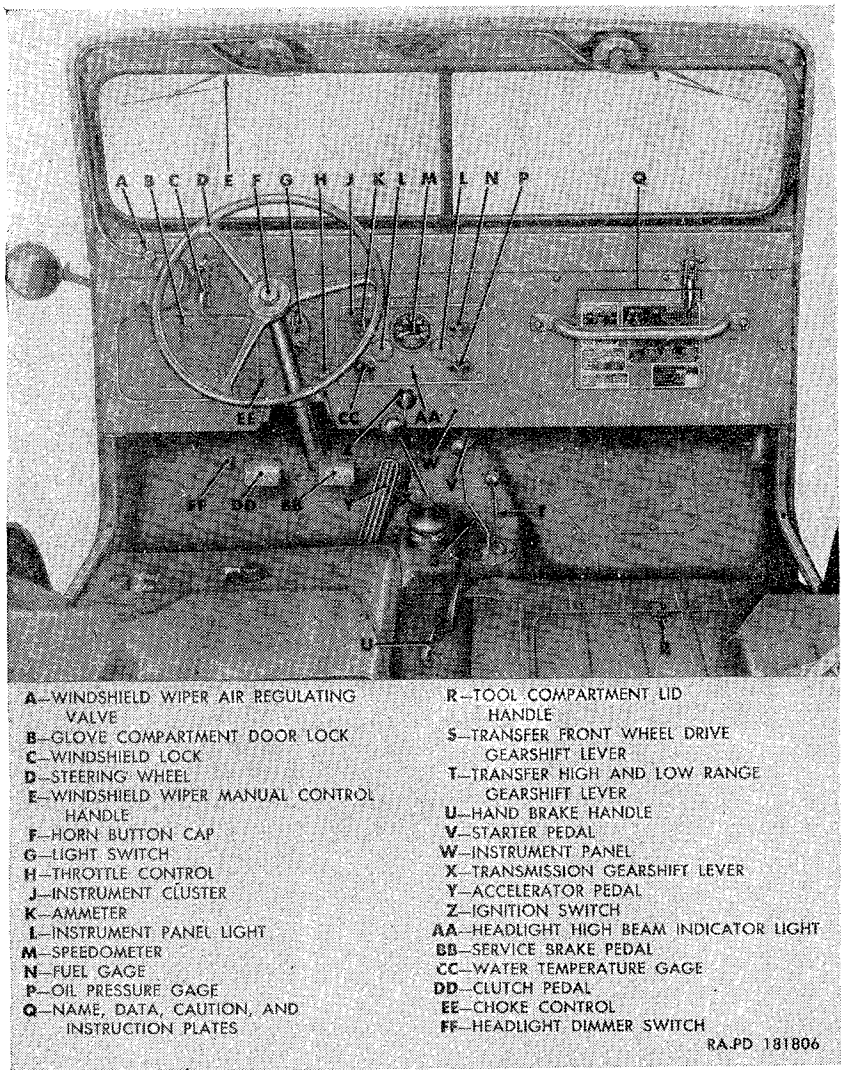
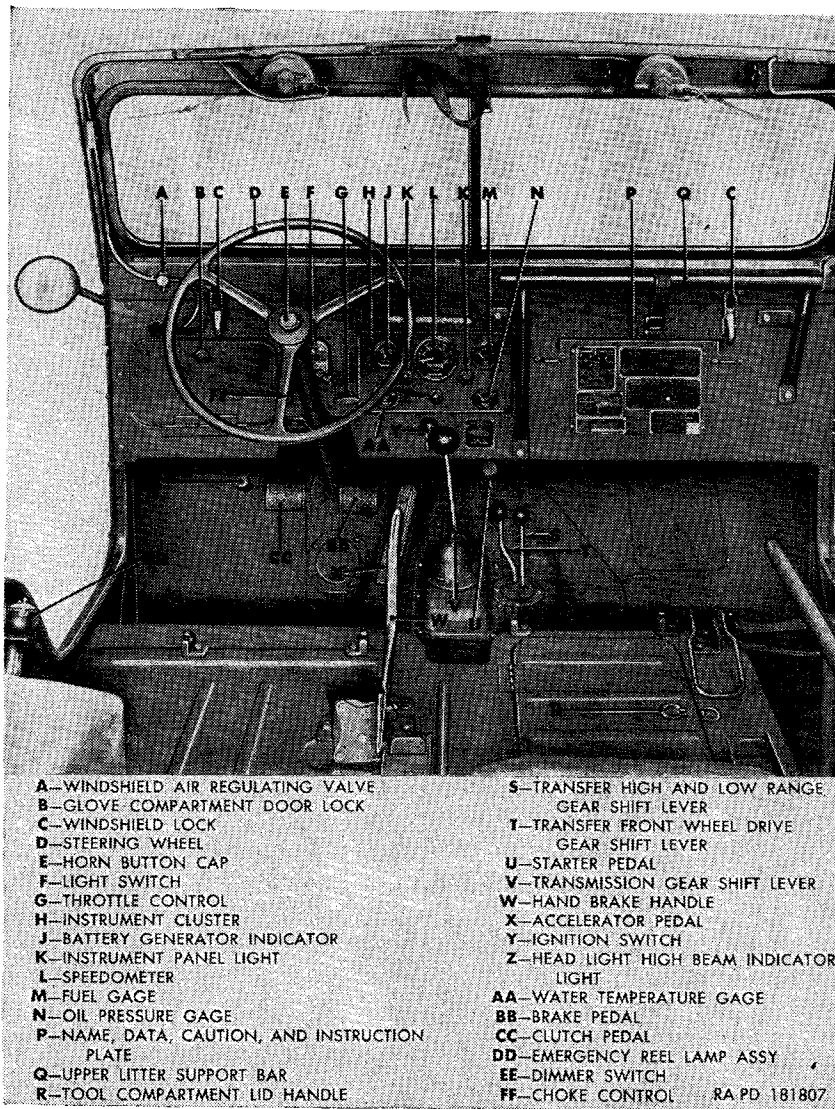
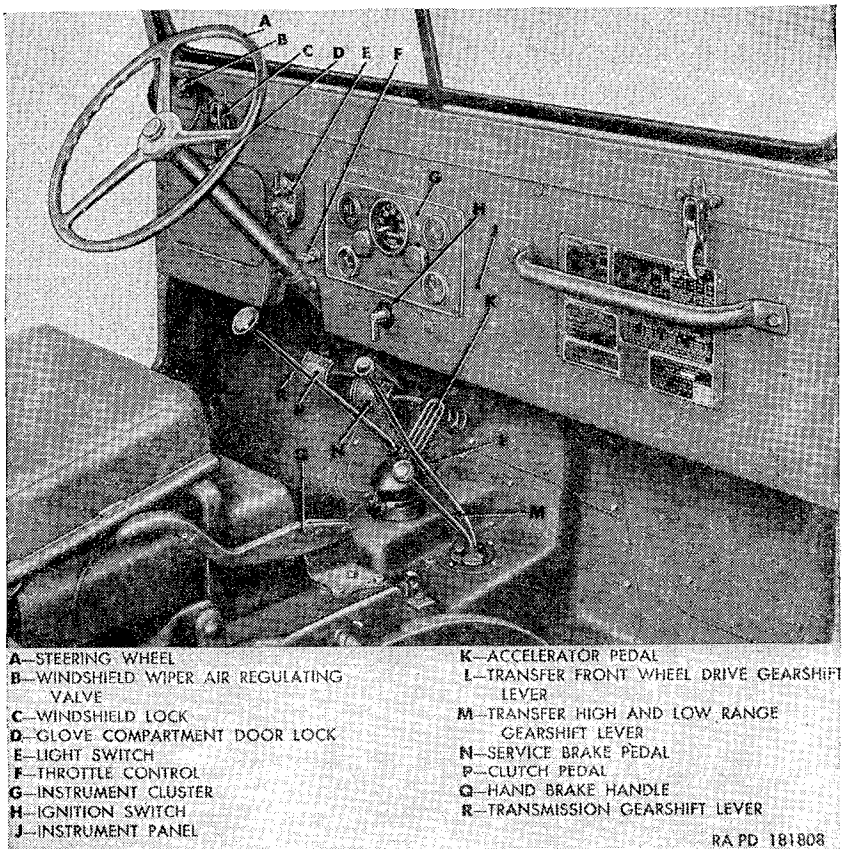
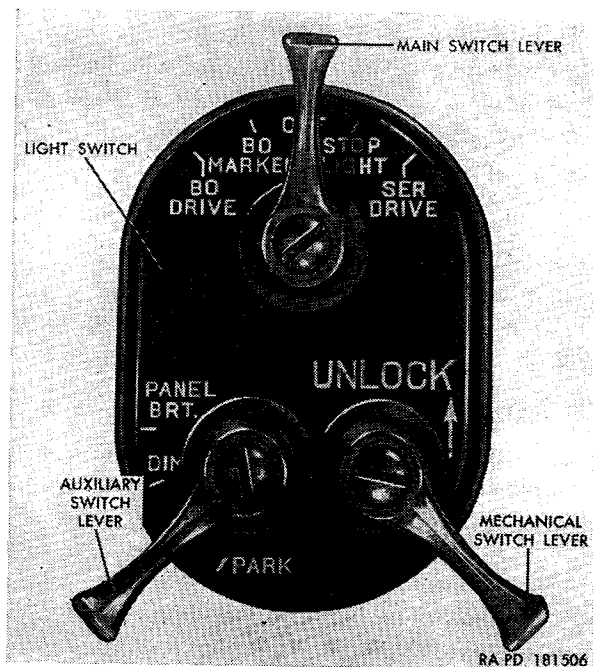

Figure 11. Driver's compartment (M38A1)—rear view—seat removed.
Figure 12. Driver's compartment (M170)—rear view—seat removed.
Figure 13. Driver's compartment (M38A1)—right view.
Figure 15. Light switch—levers in off positions.
b. All pedal and hand lever controls, instruments, gages, and switches are grouped in the driver's compartment (figs. 11 and 13) and are readily accessible to the driver for the operation of the vehicle. The major graduations, letters, figures, and pointer tips on all instruments and gages grouped in the instrument cluster (J, fig. 11) are coated with luminous paint for visibility during night operation.
The steering wheel (D, fig. 11 and A, fig. 13), located on the left side of the driver's compartment, turns the front wheels and thereby steers the vehicle. Turn the steering wheel clockwise for a right turn and counterclockwise for a left turn.
The service brake pedal (BB, fig. 11 and N, fig. 13) located on the upper-front floor pan cover to the right of the steering gear jacket and is accessible to the driver's right foot. This pedal controls the hydraulic service brakes on all four wheels. Depress the service brake pedal to apply the brakes. The degree of brake application is dependent upon the amount of physical effort applied to the brake pedal. Release the pedal to release the brakes.
The clutch pedal (DD, fig. 11 and P, fig. 13) is located on the upper-front floor pan cover at the left of the steering gear jacket and is accessible to the driver's left foot. This pedal functions to engage and disengage the clutch with and from the engine flywheel thereby connecting and disconnecting the transmission with and from the engine. Depress the pedal to disengage the clutch. Release the pedal to engage the clutch.
The accelerator pedal (Y, fig. 11 and K, fig. 13) located on the lower-front floor pan cover to the right of the brake pedal, is connected to the carburetor throttle controls and governs the engine speed from idling to full speed in varying degrees dependent upon foot pressure applied. Depress the pedal to increase engine speed. Release the pedal to decrease engine speed. The pedal, when released, will automatically return the engine to the set idling speed.
The starter pedal (V, fig. 11), attached to the upper-front floor pan cover at the right of the accelerator pedal, is a foot-operated control which actuates the starter switch on the starter, causing the starter to become engaged with the engine flywheel, thus cranking the engine. Depress the starter pedal to crank the engine. The pedal, when released, returns automatically to the normal position.
The transmission gearshift lever (X, fig. 11 and R, fig. 13) is located in the transmission control lever cover and extends upward into the driver's compartment. This manually operated lever, accessible to the driver's right hand, may be shifted from neutral position to place the transmission in first, second, third or reverse speeds as indicated on the shifting instruction plate (fig. 6). Operation of the transmission gearshift lever is described in paragraphs 43 and 45.
a. Front Wheel Drive. The transfer front wheel drive gearshift lever (S, fig. 11 and L, fig. 13), located in the driver's compartment immediately to the right of the transmission gearshift lever, controls the front axle drive selection. Shifting positions for this lever are illustrated on the shifting instruction plate (fig. 6). Operation of the lever is covered in paragraphs 43 and 46.
b. High and Low Range. The transfer high and low range gearshift lever (T, fig. 11 and M, fig. 13), located in the driver's compartment at the right of the transfer front wheel drive gearshift lever, provides for manual selection of auxiliary speed ranges in the transfer. This lever may be positioned in any one of three positions (low range, neutral range, and high range) depending upon operating conditions.
The hand brake handle (U, fig. 11 and W, fig. 12), located at the right of the driver's seat, actuates the mechanical hand brake mechanism mounted on the transfer. To set the hand brake, pull on the hand brake handle. To release the hand brake, press the release lever on the underside of the handle and permit handle to return to the released position. A ratchet mechanism within the handle will hold the hand brake applied until released by pressing the release lever.
The throttle control (H, fig. 11 and F, fig. 13), located at the lower edge of the instrument panel at the right of the steering gear jacket, provides a hand-operated control of engine speeds. It is primarily used to set the carburetor throttle at the desired starting and warmup speed. To accelerate engine, pull throttle control out to desired position. To return engine to its set idling speed, turn control 90° or more to the right or left and push control in against instrument panel. A ratchet arrangement is incorporated in the control to hold it in the desired pulled-out position. Control must be positioned so the imprinted THROTTLE is right side up before ratchet will engage.
The choke control (EE, fig. 11) is located at the lower edge of the instrument panel at the left of the steering gear jacket. This control is connected to the lever of the carburetor choke valve shaft with lever assembly which closes in proportion to the degree the choke control is pulled out. The control is used when starting and operating a cold engine. Pull the control out from instrument panel as desired when starting a cold engine. Push control all the way in against instrument panel after engine is started and operating correctly.
The lever-type ignition switch (Z, fig. 11 and H, fig. 13) is mounted on the instrument panel, directly below the instrument cluster. To turn the ignition circuit on, turn the lower end of the switch lever to the left (counterclockwise) until opposite end of lever is alined with the ON position imprinted on the ignition switch instruction plate (fig. 9). When ignition circuit is on, all the electrical gages in the instrument cluster will become energized, permitting reading of their values. To turn the ignition circuit off, turn lower end of switch lever to the right (clockwise) until opposite end of lever is alined with the OFF position imprinted on instruction plate.
(fig. 15)
a. *General.* The light switch (E, fig. 13), located on the instrument panel directly in front of the steering gear jacket, is a three lever-type with main switch, auxiliary switch, and mechanical switch levers. The light switch controls all the lights on the vehicle.
- (1) *Main switch lever.* The five-position main switch lever, located at the top of the light switch with the switch lever pointing up, can be positioned to energize the circuit to all the vehicle lights including the instrument panel and parking lights.
The headlight dimmer switch (FF, fig. 11) is located to the left of the clutch pedal. This foot-operated switch, accessible to the driver's left foot, is used to control the high and low beams of the headlights. With bright lights on (high beam), depress the dimmer switch to change to low beam and dim lights. To switch to bright lights, de-
press the dimmer switch. The headlight high beam indicator light (AA, fig. 11) indicates when high beam or bright lights are on.
Two windshield locks (C, figs. 11 and 13) are provided on the windshield assembly to hold it in the vertical position. To disengage windshield locks from the windshield locking clamp catches on the instrument panel, pull locks out at the bottoms. To engage windshield locks, position locks over the windshield locking clamp catches and push bottoms of locks toward instrument panel. Lowering and raising of the windshield assembly is described in paragraph 254.
The glove compartment door lock (B, fig. 11 and D, fig. 13) is located on the top of the glove compartment door on the extreme left of the instrument panel. To open glove compartment door, press button in center of the lock and pull door open. To close the glove compartment door, swing the door up against instrument panel. The lock will automatically latch when door is closed.
The tool compartment is located under the front passenger seat on the right side of the driver's compartment and provides for vehicular tool stowage. To gain access to tool compartment, swing front passenger seat up and forward. To open tool compartment lid, turn the tool compartment lid handle (R, fig. 11) 90° and pull upward. To close tool compartment lid, lower lid making sure handle is turned 90° to clear flange of tool compartment, and lock the lid by turning handle 90° toward front of vehicle.
The windshield wiper air regulating valve (A, fig. 11 and B, fig. 13) is located on the windshield assembly at the left of the steering wheel. This valve controls the operation of the windshield wiper motors. To turn the motors on, turn the valve lever counterclockwise. To turn the motors off, turn the valve lever clockwise.
A windshield wiper manual control handle (E, fig. 11) is mounted on each windshield wiper motor for manual operation of the windshield wiper blade. To operate blade, move handle back and forth as necessary.
The horn button cap (F, fig. 11) is located in the center of the steering wheel. Depress cap to sound the horn. Release cap pressure to stop sounding of horn.
The ammeter (M38A1) (K, fig. 11) and the battery generator indicator (M170) (J, fig. 12) are located in the upper-left corner of the instrument cluster. The ammeter indicates the amount of current flowing to and from the batteries, depending upon whether the battery is being charged or discharged. The ammeter dial (M38A1) is calibrated to register from DIS to CHG, with zero at the midfront of the needle swing. The battery generator indicator (M170) is a combination voltmeter and ammeter. When the ignition switch is turned on, before the engine is started, the position of the needle indicates the voltage available in the battery: red, low voltage; yellow, normal voltage; and green, high voltage. After the engine is started, the indicator functions as an ammeter. The ammeter will generally show a charge when the engine is first started and continue to show a charge as engine speed is increased, depending upon the amount of electrical power being used. Abnormal readings (par. 86), when engine is operating at normal speed, indicates an inoperative generating system. If improper operation of generating system is indicated by ammeter, stop engine and investigate cause (par. 90a).
The fuel gage (N, fig. 11), located in the upper right corner of the instrument cluster, indicates the amount of fuel in the fuel tank. The gage dial is marked with E, $\frac{1}{4}$, $\frac{1}{2}$, $\frac{3}{4}$ and F. The fuel gage functions only when the ignition switch is on. If gage is inoperative, refer to paragraph 90b.
The oil pressure gage (P, fig. 11), located in the lower right corner of the instrument cluster, indicates the engine oil pressure when the engine is running.
The water temperature gage (CC, fig. 11) is located in the lower left corner of the instrument cluster. The gage dial is marked from 60° to 260° F. This gage, which is actuated by the engine water temperature sending unit mounted on the engine, indicates the engine coolant temperature. Normal operating temperature is 160° to 180° F. If temperature rises suddenly during warmup or normal operation, stop engine and investigate cause (par. 88). Temperature below 140° F., during normal operation indicates an inoperative cooling system. If temperature is below 140° F., stop engine and investigate cause (par. 88). For inoperative gage, refer to paragraph 90*c*.
Two instrument panel lights (L, fig. 11) are located on the instrument cluster below, and one to either side of the speedometer. These lights provide illumination for the instruments and gages during night operation. The auxiliary switch lever on the light switch (fig. 15) actuates these lights and permits them to be turned off, on dim, or on bright. Metal shields over the panel light lamps prevent reflection during night operation.
The headlight high beam indicator light (AA, fig. 11), located on the instrument cluster below the speedometer, indicates when the high beam of the headlights is on. This light will go out when headlights are returned to low beam by operation of the headlight dimmer switch (par. 25).